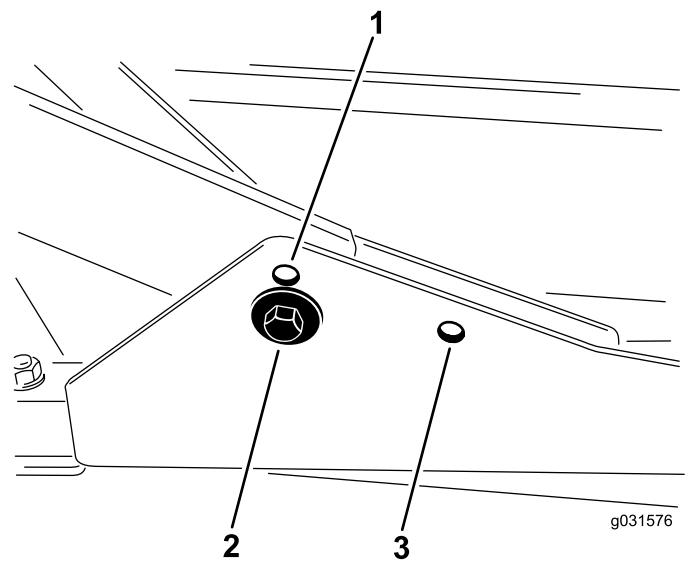

Figure 11
1. For heights of cut in the 2 to 7.6 cm (3/4 to 3 inches) range, mount the front carrier frames in the lower, front mounting holes (Figure 11).
2. For heights of cut in the 6.3 to 10 cm (2-1/2 to 4 inches) range, mount the front carrier frames in the upper, front mounting holes (Figure 11).
For all heights of cut, mount the rear cutting unit in the rear mounting holes (Figure 11).